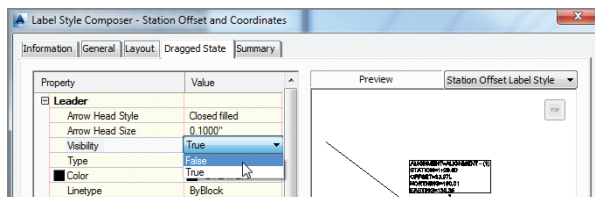

FIGURE 2.5 Changing the visibility of the leader by modifying a label style
7. In the Label Style Composer dialog box, click the Dragged State tab. Change the Visibility value for the leader to False, as shown in Figure 2.5.